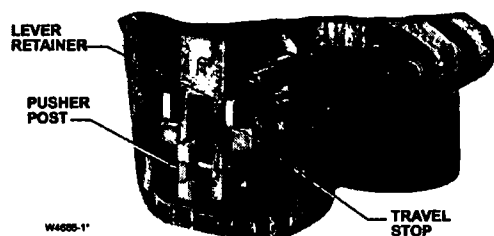

Figure 2. Internal Relief Construction Feature
- **Type 627R and 627MR Travel Stop**—The internal relief valve still works if the disk or linkage fails. The pusher post (figure 2) contacts the travel stop of the lever retainer and, as the diaphragm continues to rise, it opens the relief valve.
For extra protection, should failure conditions exist which would prevent normal operation of the regulator (for example, disk broken off or disk erosion), the pusher post contacts the lever retainer (figure 2) causing the relief valve assembly to open. Since the diaphragm continues to rise as downstream pressure builds, it opens the relief valve, thereby opening the valve. This internal relief may be adequate for the application.